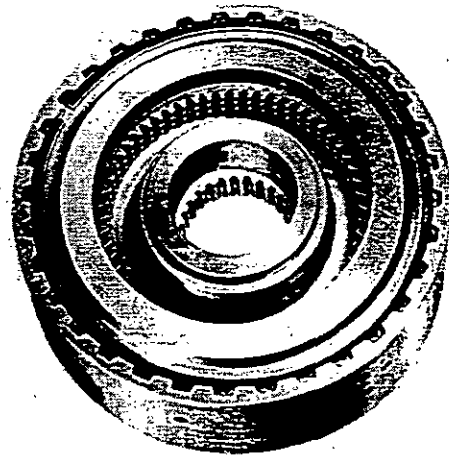

FIG. 24
- Fig 24. Refit the retainer plate (50) and the snap ring (51).